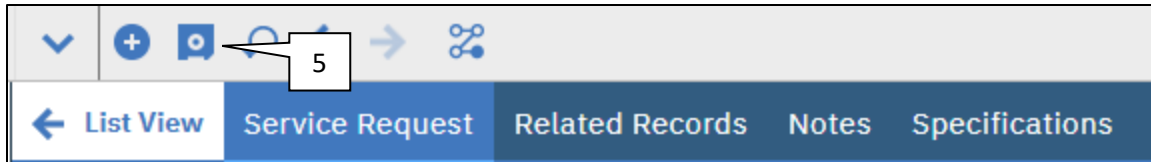

Figure 22: Save Icon
4. Refer to **Figure 22**. Some of the fields are automatically populated. Fill in the remaining fields with as much relevant information as you have.